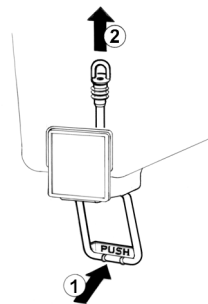

figure 2
5 **Pinch tube faucet:** push the dispensing handle (1) and take the pinch tube off from its seat (2) (see figure 2).